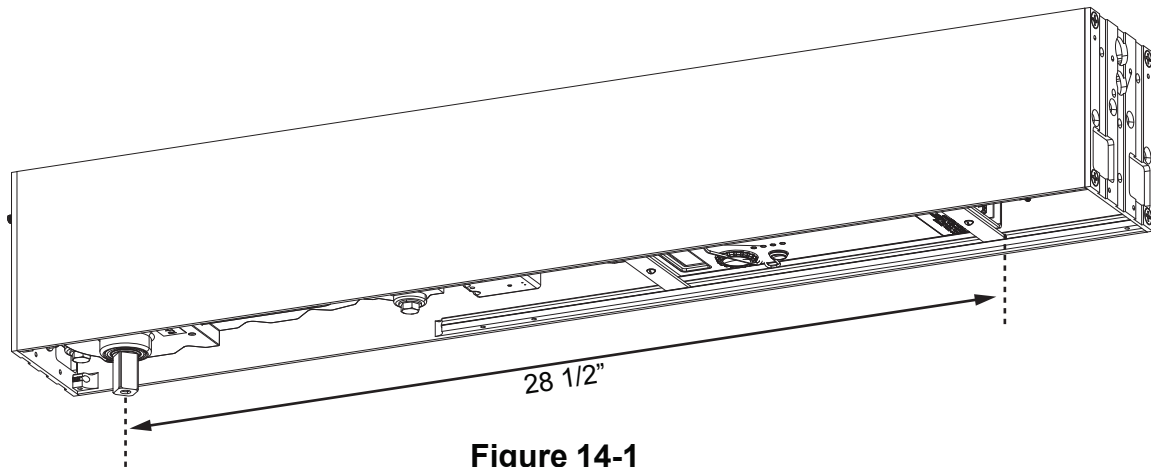

Figure 14-1
- 14a Before installing the plates, make sure the distance from the Primary Operator spindle to the far end of the Control Box is approximately 28 1/2" (Figure 14-1)